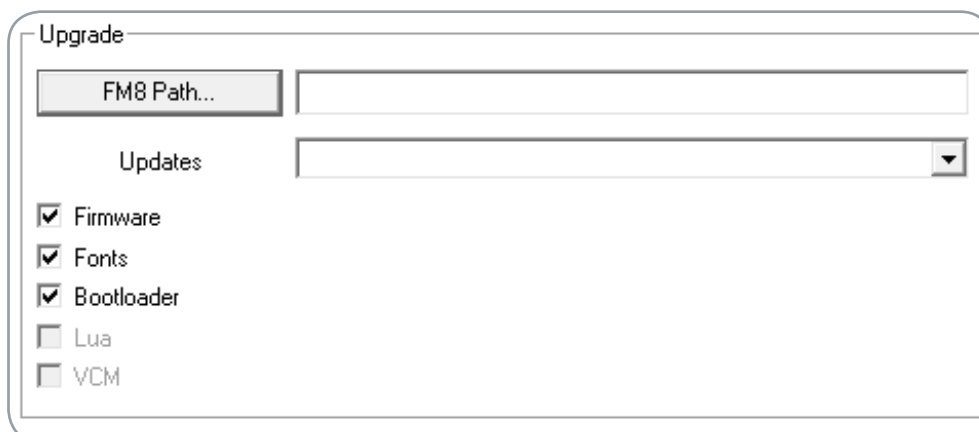

Figure 4. Upgrade section
2. In the Upgrade section of the Uploader Tool (Figure 4):